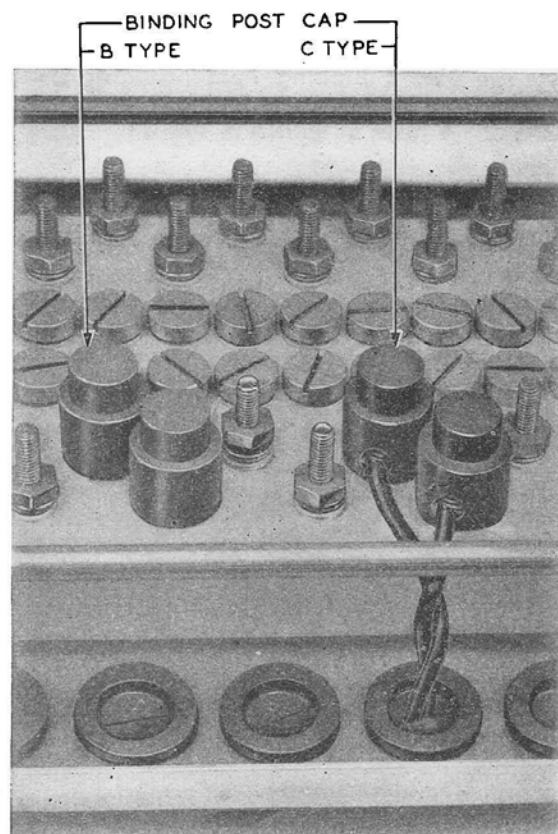

FIG. 12—USE OF B AND C BINDING POST CAPS
9.05 The **B and C Binding Post Caps (Red)** are used on terminal binding posts as shown in Fig. 12. The B binding post cap must be placed on vacant binding posts, but the C binding post cap is slotted so that it may be placed on wired binding posts.